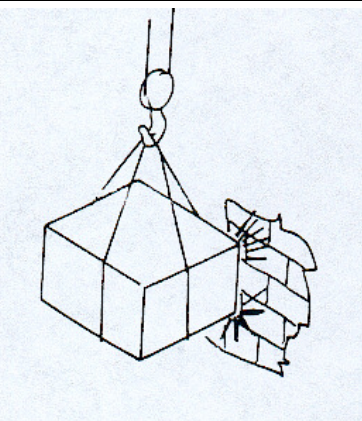

fig.95
- **NEVER** collide load bearing structures or other machinery and installations with the load (fig.95).